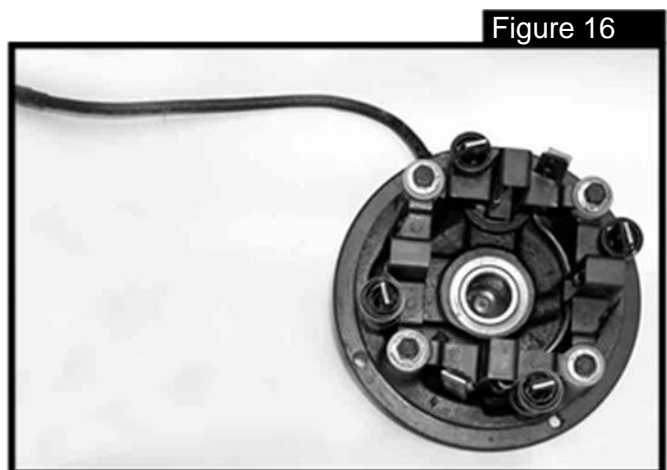

Figure 16
1.3.5 act plate. Figure 16 shows a correctly assembled CE housing.